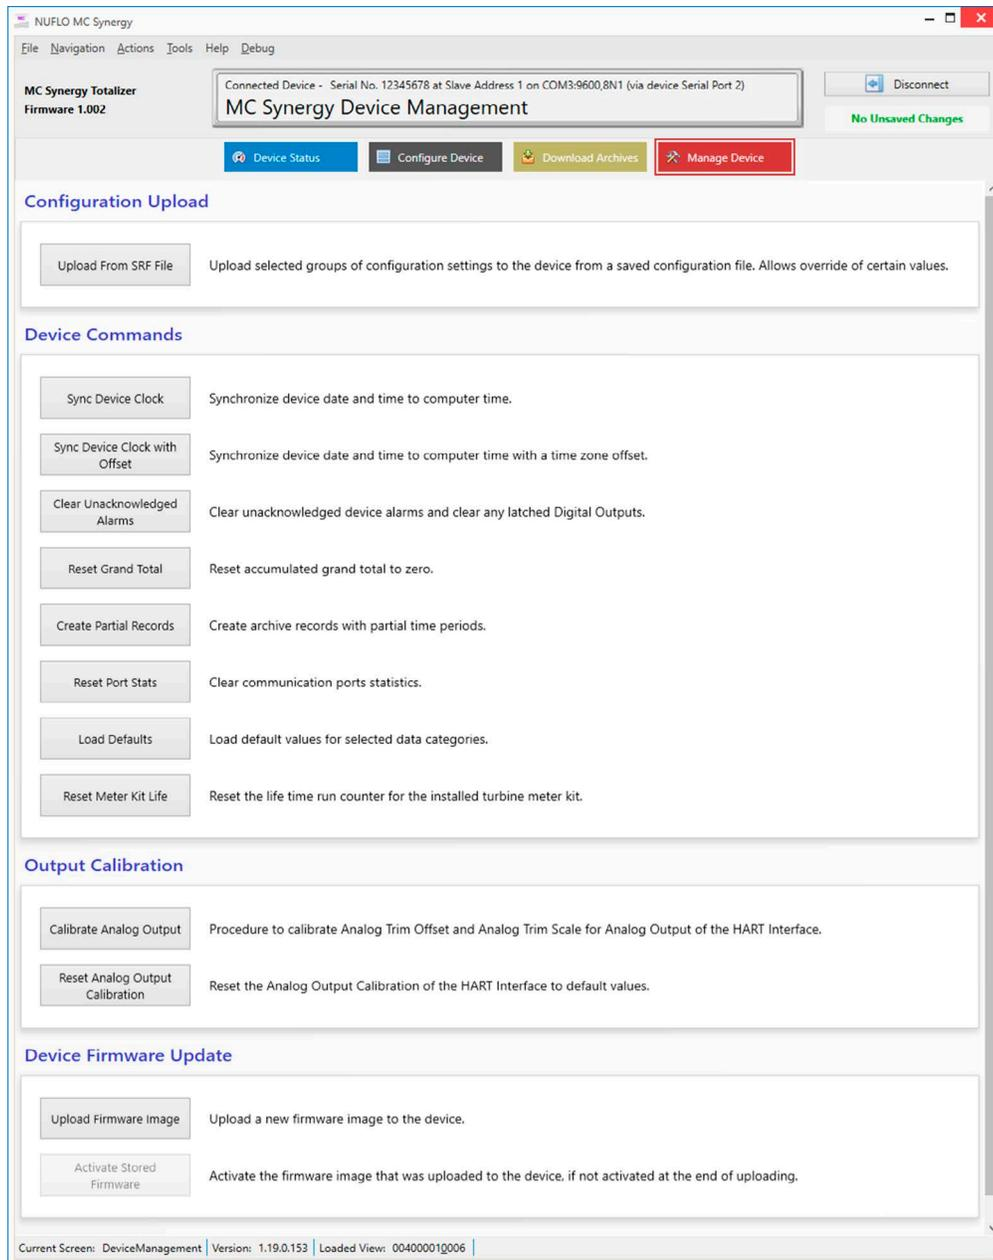
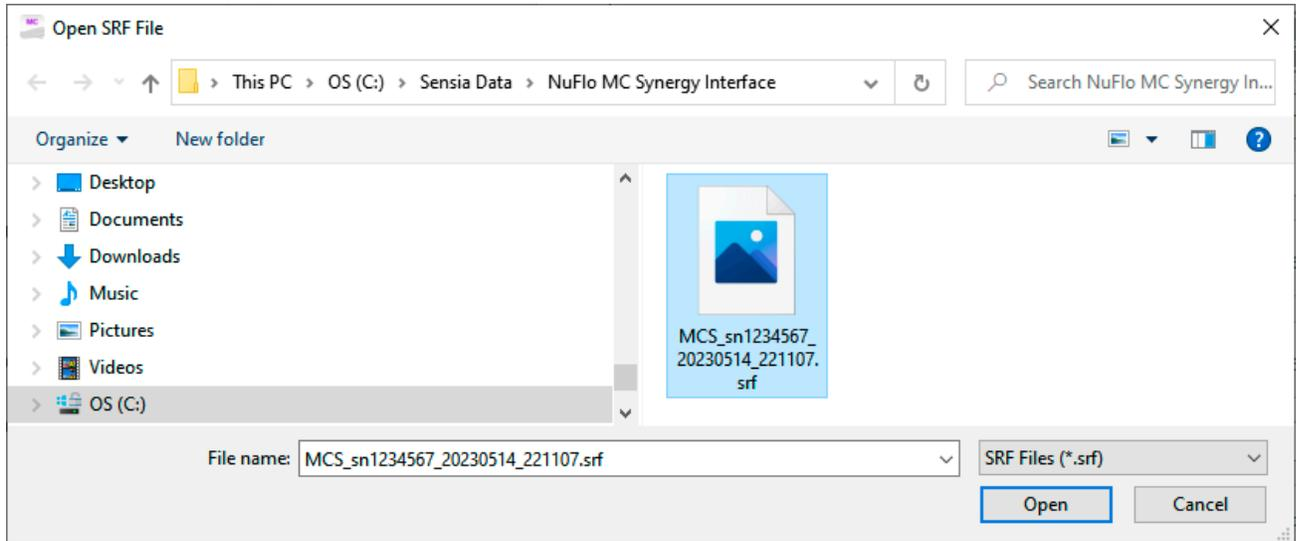

Figure 10.1—Manage Device screen
Figure 10.2—Upload file selection
The Manage Device menu (Figure 10.1) provides access to a variety of discrete operations that can be performed on the MC Synergy in addition to the configuration procedures described in previous sections.
1. Click the Upload From SRF File button (Figure 10.1, page 85) and select an SRF file from the dialog supplied (Figure 10.2, page 87).